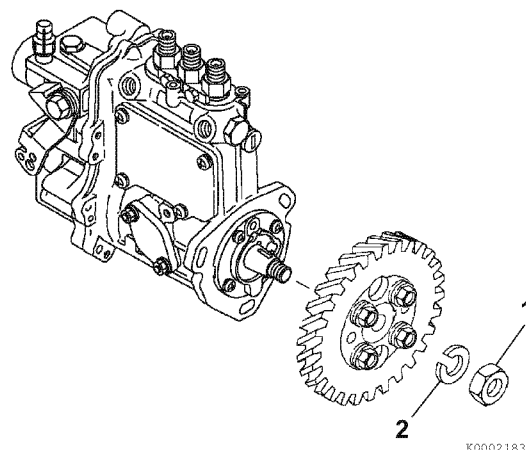

Figure 7-25
5. Reinstall the fuel injection pump drive gear lock washer (2, **Figure 7-25**) and nut (1, **Figure 7-25**). Do not lubricate threads of the nut or shaft. Hold the crankshaft pulley bolt with a socket wrench and tighten the drive gear nut to the specified torque. *See Special Torque Chart on page 7-9.*